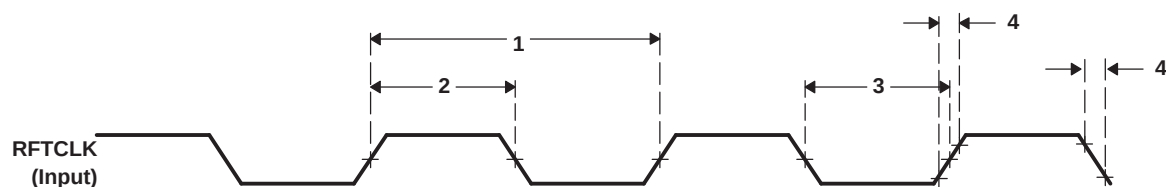

Figure 7-52. RFTCLK Timing [GMII Operation]
**Table 7-74. Timing Requirements for RFTCLK - GMII Operation (see Figure 7-52)**